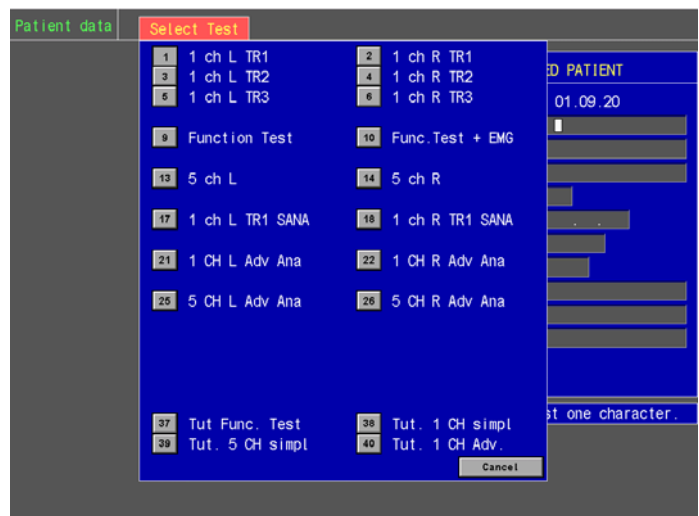

Figure 44 The Select Test Menu.
- Click to proceed to the Select Test Menu, see Figure 44 below.
- In the Select Test Menu, click the selectable button number **37** named: Tut. 1 CH simpl, see Figure 44 above.